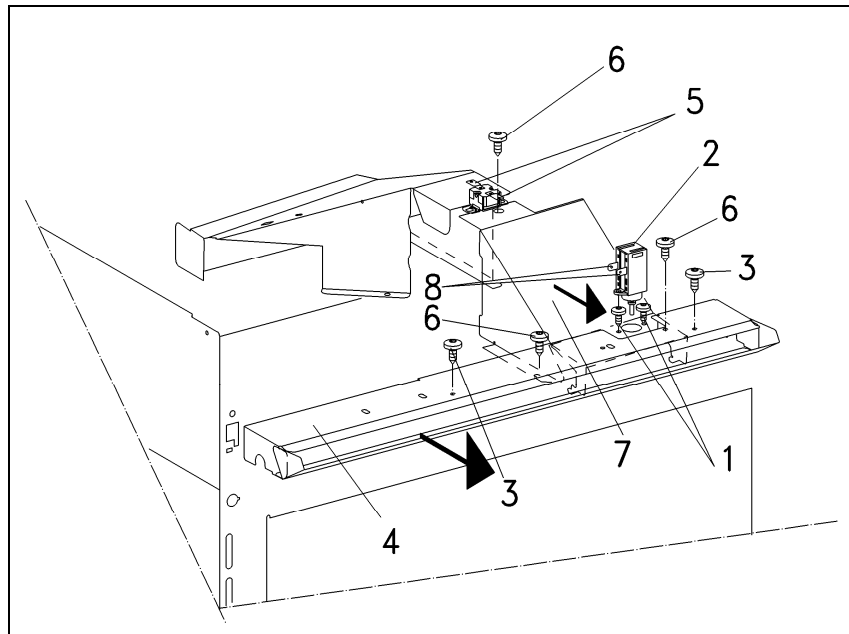

Figure 012-4: Front Air Duct Removal
6. Remove the screws securing the release element (Figure 012-4, Item 1).
7. Remove the release element (Figure 012-4, Item 2).
8. Remove the screws securing the air duct panel (Figure 012-4, Item 3).
9. Remove the air duct panel (Figure 012-4, Item 4).
10. Disconnect the magnetron connections (Figure 012-4, Item 5).
11. Remove the screws securing the front air duct (Figure 012-4, Item 6).
12. Remove the front air duct (Figure 012-4, Item 7).